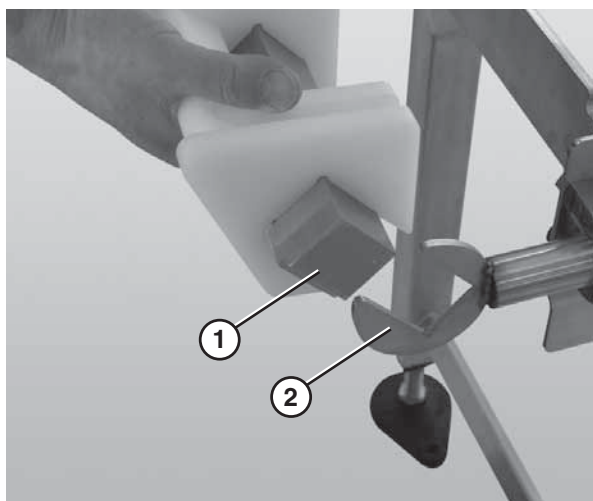

Figure 21
4. Attach the nose bar transfer post (**Figure 21, item 1**) to the nose bar idler shaft hands (**Figure 21, item 2**).